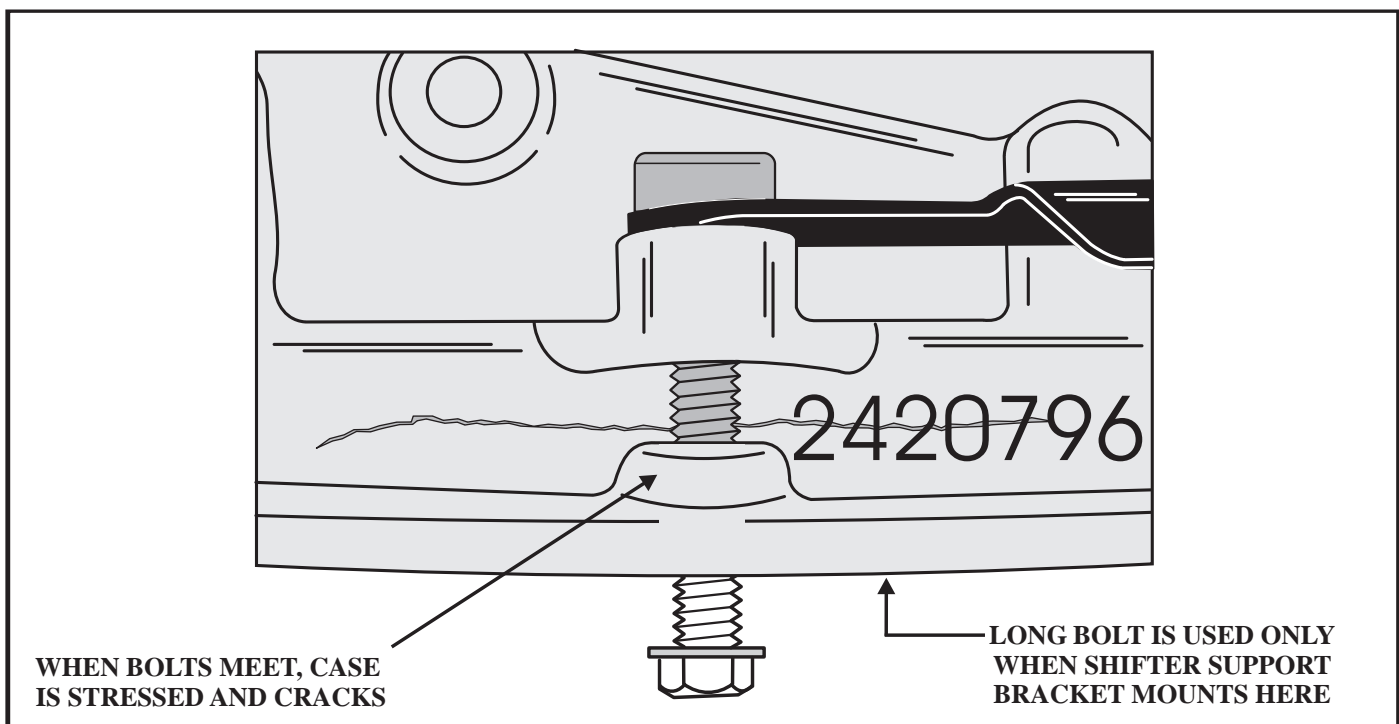

Figure 1
**CAUSE:** There are two types of shifter cable support bracket locations, one is to the case above the pan rail, and the other is from the bottom through the pan rail. The bottom pan rail location uses longer bolts to attach the shifter cable. If these bolts are used to secure the pan without the shifter cable bracket, these bolts will stick out of the pan bolt holes too far. When the 45 Torx bolts for the top mounted shifter cable bracket are tightened, they will make contact with the pan bolts that are too tall. The opposing pressure from the bolts making contact will put enough stress on the case in that area to break the case as seen in Figure 1.